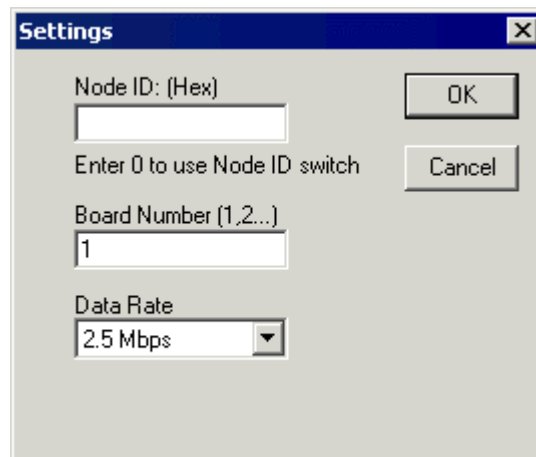

Figure 5 – Application Settings
- Selecting the **Settings** menu item will display the Settings Panel in **Figure 5**.